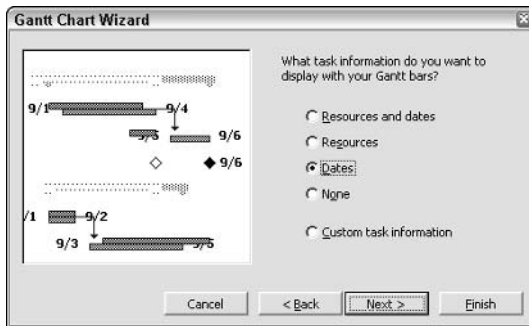

Figure 8-3: Placing text alongside taskbars can be useful with larger schedules.
3. Click the option button for Custom Gantt Chart, and then click the Next button. The third wizard dialog box appears, as shown in Figure 8-3. In this box, you can choose the type of task information to display with your Gantt bars: Resources and dates (the end date only), Resources, Dates, None (of the choices), or Custom task information. When you choose Dates, as I did in
Figure 8-3, Project displays the start date and end date in the taskbar area. If you choose this setting, you don't need to show the corresponding columns for start date and end date in the Gantt table, so this option can help you modify the size of your schedule printout.
If you select the Custom task information option in the Gantt Chart Wizard (refer to Figure 8-3), the wizard opens three consecutive dialog boxes. These three dialog boxes prompt you to display one set of information alongside normal taskbars, another set on summary taskbars, and a third set next to milestone tasks, respectively. The wizard also prompts you to display one set of data to the left of each taskbar, one set to the right, and one set inside the taskbar itself. You could end up with nine pieces of information in and around your various taskbars!